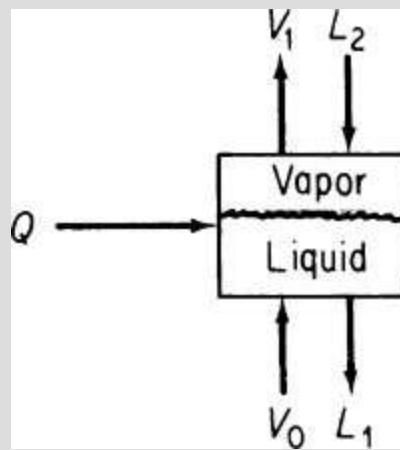

Figure E12.1e
e. **Two-phase well-mixed tank (stage) at equilibrium** (Figure E12.1e) (L , liquid phase; V , vapor phase): Here $W = 0$. Although two phases exist (V_1 and L_1) at equilibrium inside the system, the streams entering and leaving are single-phase streams. By equilibrium we mean that both phases are at the same temperature and pressure and that an equation is known that relates the composition in one phase to that in the other for each component.